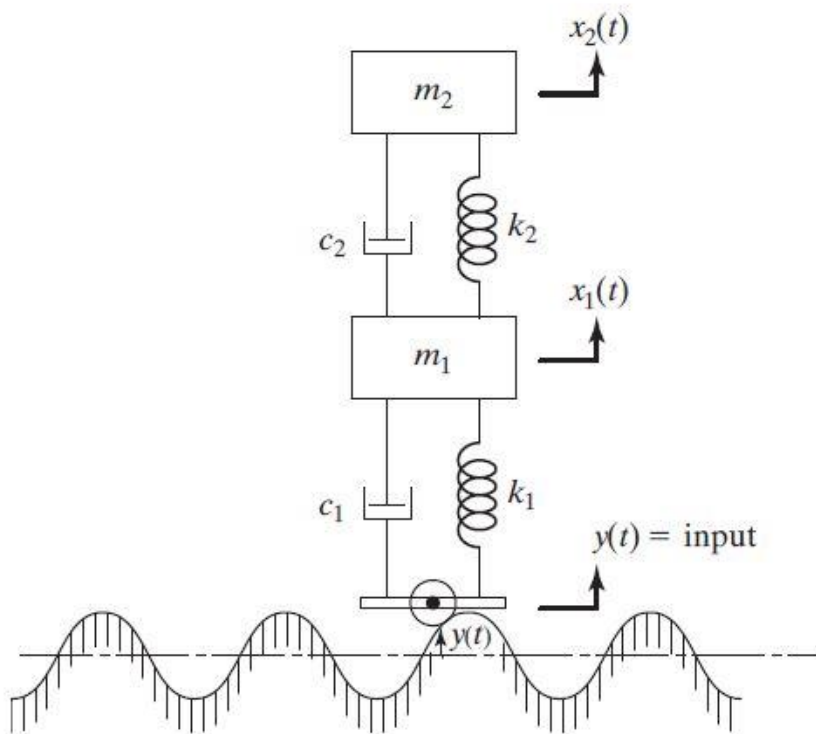

FIGURE 5.20
- 5.1 Derive the equations of motion of the system shown in Fig. 5.20.